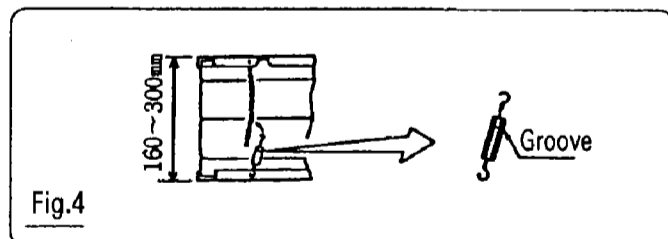

Fig.4
- The canvas duct can be adjusted within the range of 160mm ~ 300mm. (Fig. 4)